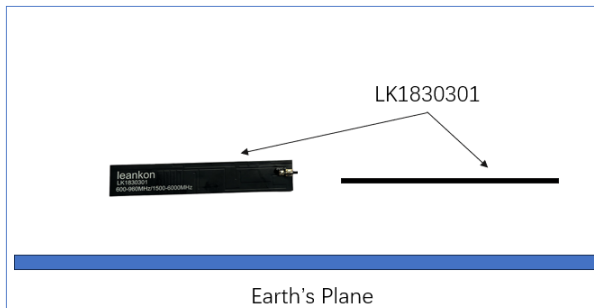

Figure 2.1.1
- When the antenna is placed parallel to the earth's plane, as shown in Figure 2.1.1, the polarization will be horizontal. Conversely, when the antenna is positioned vertically with respect to the earth's plane, as depicted in Figure 2.1.2, the polarization will be vertical. Linear polarization includes Horizontal and Vertical.